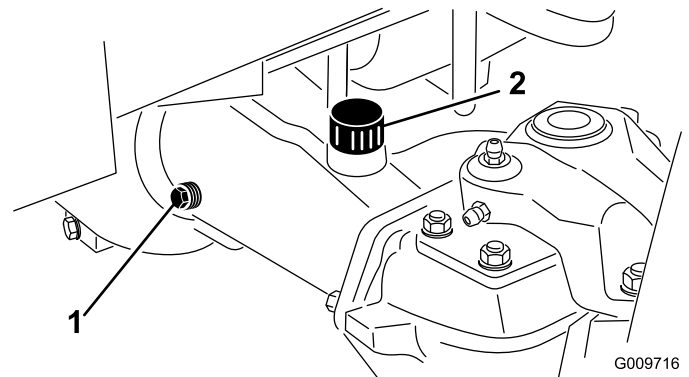

Figure 47
- Remove a check plug from 1 end of the axle (Figure 47) and make sure that the lubricant is up to the bottom of the hole.
- If the level is low, remove the fill plug (Figure 47) and add enough lubricant to bring the level up to the bottom of the check plug holes.